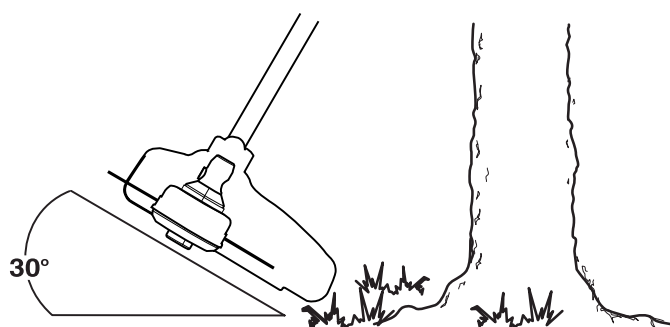

Fig. 6
- Stand in the operating position (Fig. 6). Stand up straight. Do not bend over.
When trimming around trees, posts, fences, etc., rotate the whole unit so that the cutting head is at a 30° angle to the ground (Fig. 6).